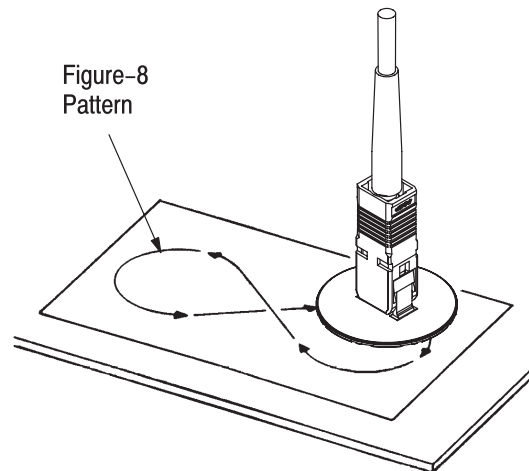

Figure 16
5. Holding the polishing bushing and connector, start polishing very lightly. Polish in an elongated figure-8 pattern. See Figure 16. Initially, a small